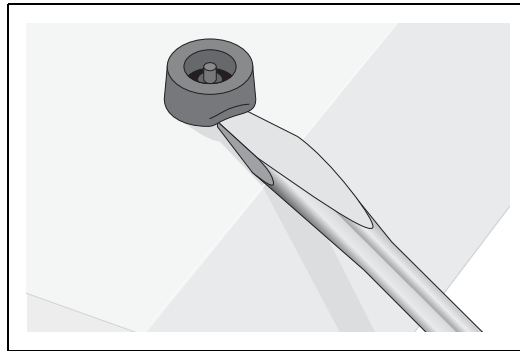

Figure 36. Removing the Feet
2. Using a flat-head screwdriver, remove the snap-on plastic feet from the bottom of the switch, as shown in Figure 36.